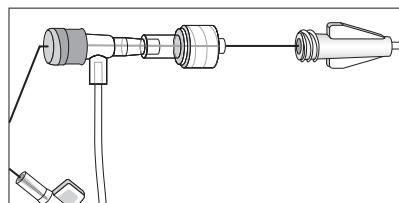

Figure 7
**⚠️ Warning:** Remove stiffening stylet and Luer-Lock sidearm assembly as a unit (refer to Figure 7). Failure to do so may result in wire breakage.